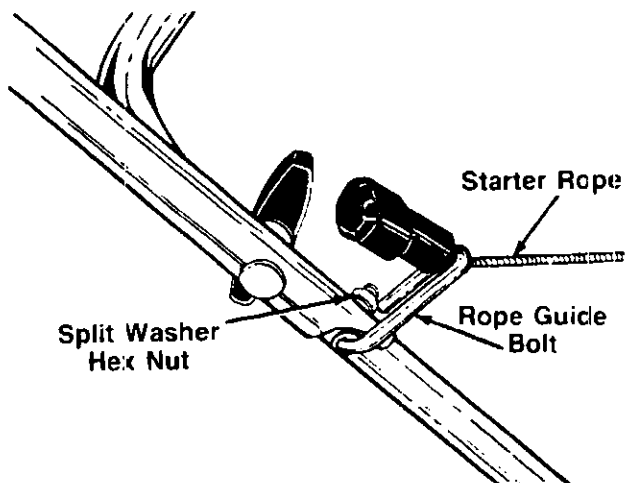

FIGURE 5.
1. Insert the rope guide bolt through the hole provided in the right side of the handle. Secure with split washer and hex nut, finger tight only. See figure 5.
3. With the spark plug wire disconnected and grounded, depress the blade control handle and pull the rope out of the engine. Slip the starter rope into the rope guide bolt as shown in figure 5.